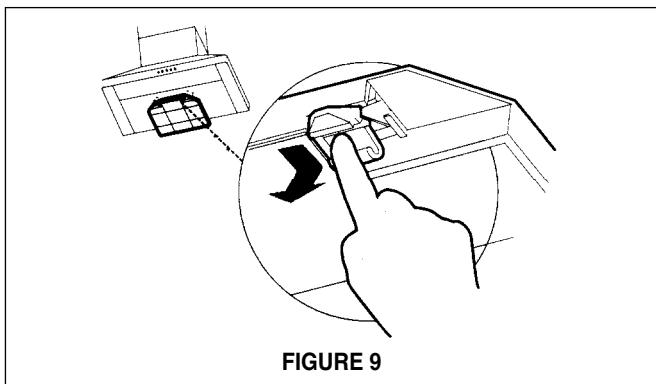

FIGURE 9
- 4) Install the CHARCOAL FILTER behind the center grease filter opening by inserting and locking into place, as indicated in **FIGURE 9**. Replace the grease filters back into the bottom of the hood and snap into place.